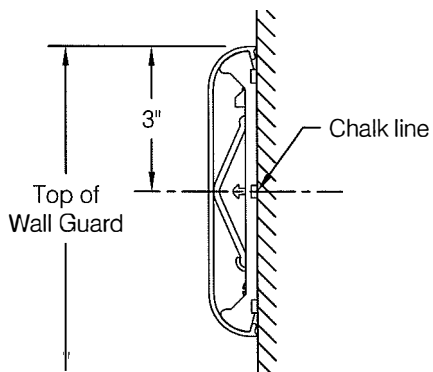

fig 1
- WGVX-6-12-XXX accent strips (5) and textured
Step 1: Determine top of wall guard height and snap a chalk line 3" below to locate centerline of wall guard and to provide a reference line for locating WG-6C Red-E-Clip® retainers, see **fig 1**.